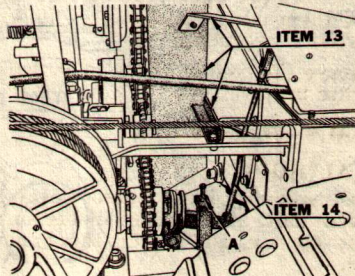
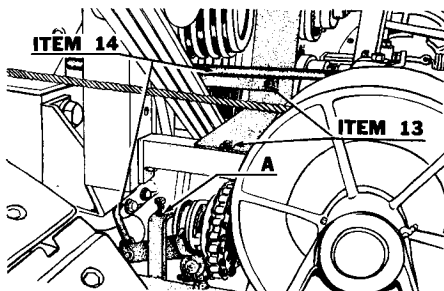

Figure 11 Hoist Worm Shaft Clutch Control—Right Side
Figure 12 Hoist Worm Shaft Clutch Control—Left Side
right hoist brace. See (Item 13), Figure 11.
Set the left portion of the shield on the left hoist brace. See (Item 13), Figure 12.
Fasten the small brace between the left upright portion of the shield and the idler pulley support. See (Item 13), Figure 12.
Connect the brace to the upright portion of the shield on the right side and between the shield and seat support. See (Item 13), Figure 11.
Observe (Item 14), Figure 11. Assemble the shift fork and its lever shaft into the bearing on the hoist support.
Connect the link between the horizontal portion of the bell crank lever and the lever shaft which supports the jaw clutch fork. Repeat this procedure by connecting the remaining short link to the left hoist jaw clutch control. See (Item 14), Figure 12.
Check the position of the control pedals. Set the pedals at a convenient operating position by changing the position of the yokes on the control linkage. Links from the two foot pedals are connected to levers that mount on serrated shafts. Change the position of the two levers if necessary. Notice the adjustment bolt (A), Figure 11. Set the bolt at a position which will hold the jaw clutch member approximately $1/16$ " from complete engagement. Repeat the procedure of setting the adjustment bolt to hold the left jaw clutch member $1/16$ " from complete engagement. See (A), Figure 12. For the hoist brake adjustment, refer to Adjustment Instructions "Hoist Controls," Page 61 of Operations Section.